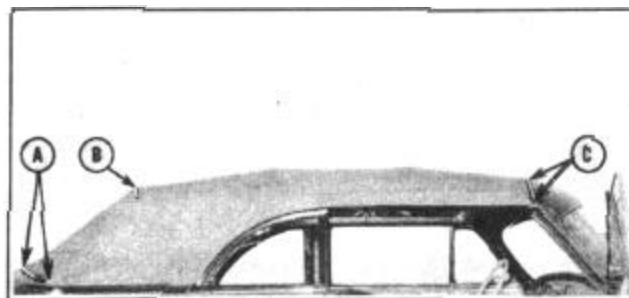

FIGURE 169
1. Remove snap fasteners and chrome moulding from rear belt line (A), Figure 169.
2. Remove six Phillips head screws and tacks from top and rear curtain at belt line (A).
3. Remove chrome moulding and retainer from top at rear bow (B).
4. Remove all tacks from top at rear bow (B). Fold top material forward over bows.
5. Remove tacks from top side pads at rear bow (B). Fold pads forward over bows.
6. Remove tacks from rear curtain at rear top bow (B) and remove rear curtain.
7. Remove top, front header rear chrome moulding (C) (narrow) and retainer.
8. Remove all tacks from top at front header (C). Remove top material and clean all sealing compound from area between two top front header chrome mouldings. Lightly hammer down all tack holes in all tacking strips.